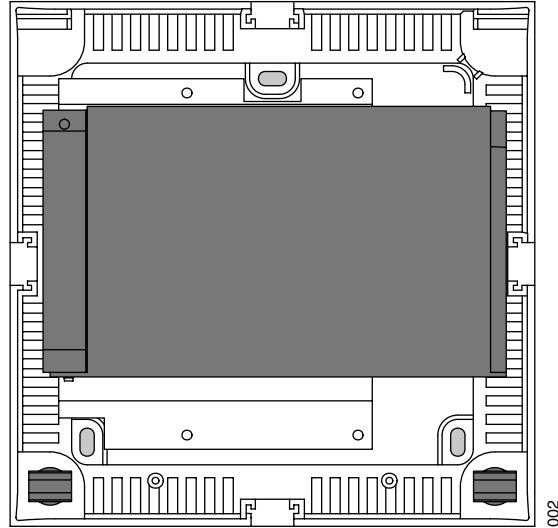
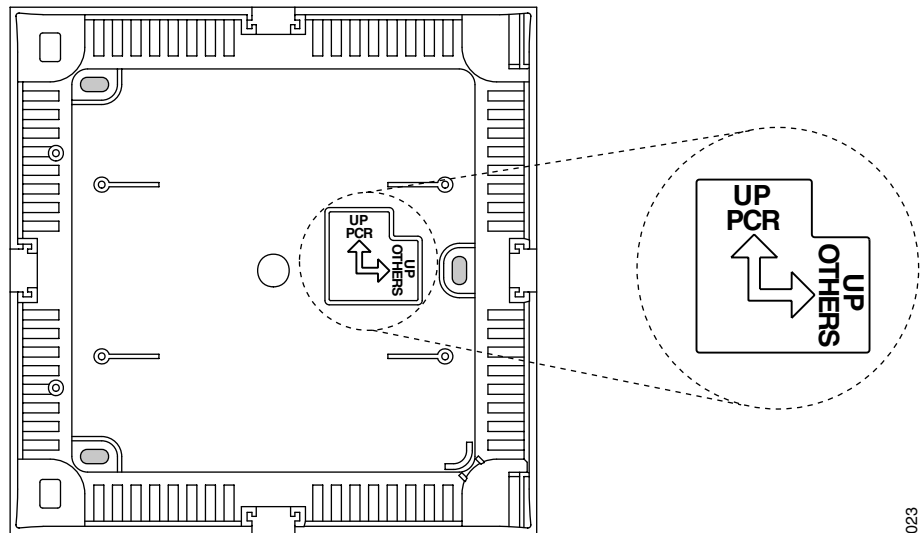

Figure 4. The Power Supply module must be mounted horizontally.
Figure 5. The Charging Rack modules must be mounted with the arrow marked "UP PCR" upwards.
Note: The Charging Rack modules must be mounted with the marking text, "UP PCR", upwards, see figure 5 on page 6. The Power Supply module must be mounted horizontally and with the clips down, see figure 4 on page 6.
- 3 Perform a reset by pressing the reset button SW300, see 8 Board Description, Master PCR-M and Extension PCR-E on page 21. Make sure that the Function Indicator indicates Software Download Mode, see figure 5 on page 6.